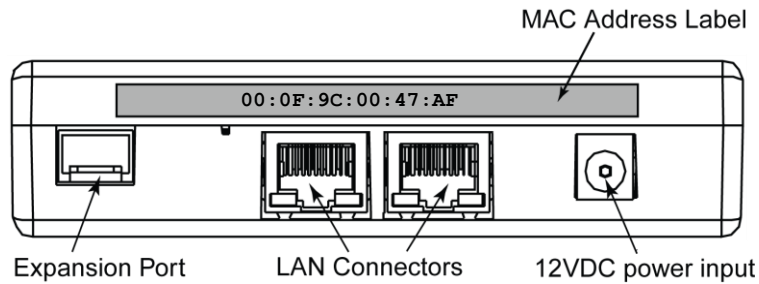

Figure 54 - MAC Address on the PM
1. Find and make a note of the Media Access Control (MAC) Address of the PM. The MAC is located on MAC Address Label, above the LAN Connectors on the back of the PM. See Figure 54 below.